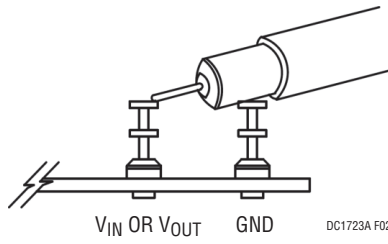

Figure 2. Measuring Input or Output Ripple
**Note:** When measuring the input or output voltage ripple, care must be taken to avoid a long ground lead on the oscilloscope probe. Measure the input or output voltage ripple by touching the probe tip directly across the terminals of the input or output capacitors. See Figure 2 for proper scope probe technique.